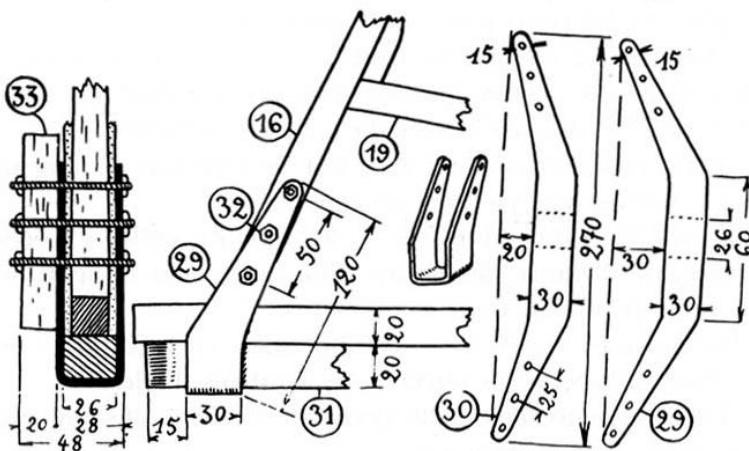

Figure 3.6: Landing gear reinforcement
In a sheet of 1mm soft steel, cut two strips ② and ③, which, when bent, will be held in place by gluing under the lower ends of members 15 and 16 a pad, ① (fig. 3.6) of hardwood — walnut, oak, beech, etc. — $20 \times 26 \times 230$. Only drill one side of these fittings for now. The other side will be drilled later when it is bound or clamped in place.